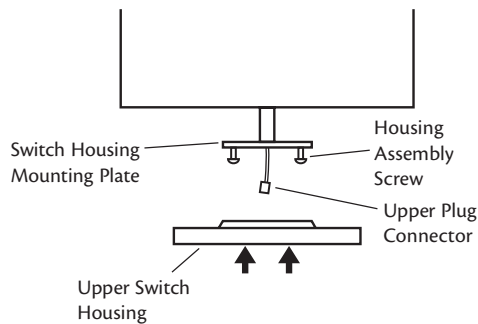

Figure 28 - Attaching the upper switch housing to the mounting plate
1. Partially install two #6-32 x 3/8" housing assembly screws into the switch housing mounting plate as shown in Figure 28.
2. Feed the upper plug connector through the center opening of the upper switch housing. See Figure 28.